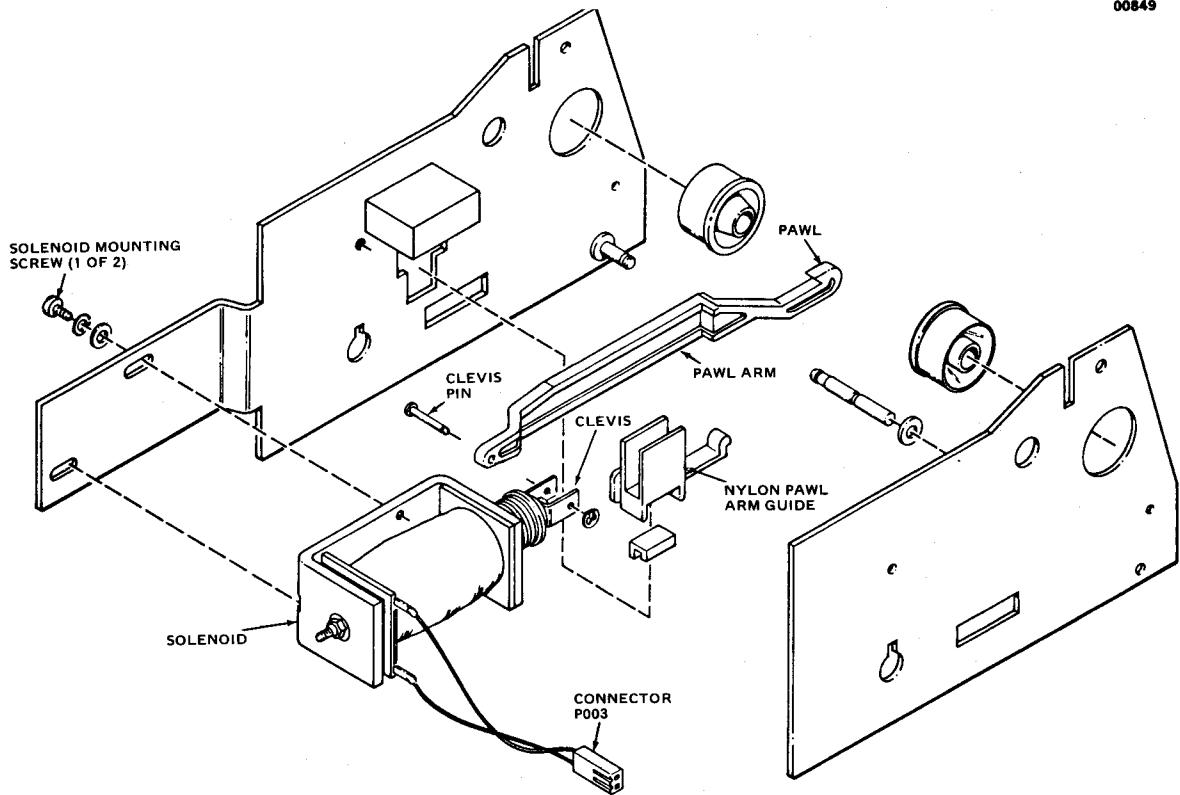

Figure 6-3. LINE FEED SOLENOID REPLACEMENT
6.4 LINE FEED SOLENOID ASSEMBLY (See Figure 6-3)